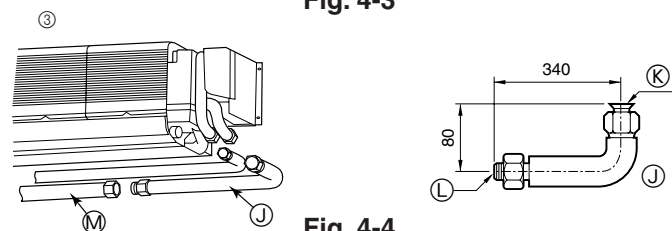
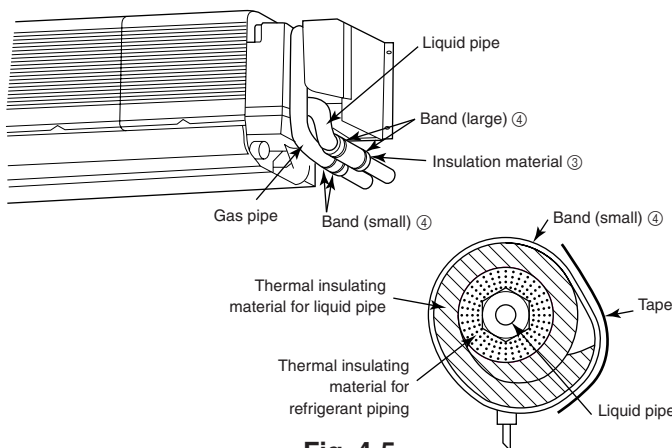

Fig. 4-4
Fig. 4-5
③ L-shaped connection pipe (for gas piping) (Fig. 4-4)
- ① 107 mm (P63), 102 mm (P100)
- ② For lower-side piping
- ③ For right-side piping
- ④ Liquid pipe
- ⑤ L-shaped connection pipe (option)
- ⑥ Unit side
- ⑦ On-site piping side
- ⑧ Gas pipe
- ⑨ Knockout holes on the unit body
- ⑩ Piping
- ⑪ For left-side piping
4.3. Refrigerant piping (Fig. 4-5)